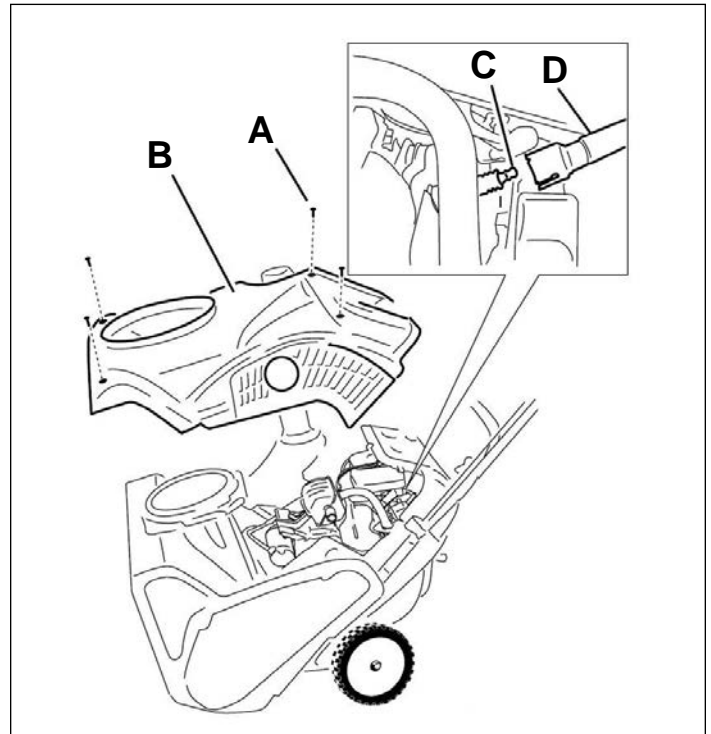

Fig. 018
- B. Large Screws (3)
4. Remove the 4 screws that secure the shroud (Fig. 018).
- A. Screw (4)
6. Remove the shroud (Fig. 018).